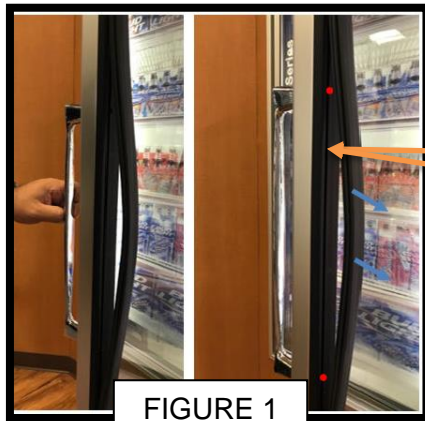
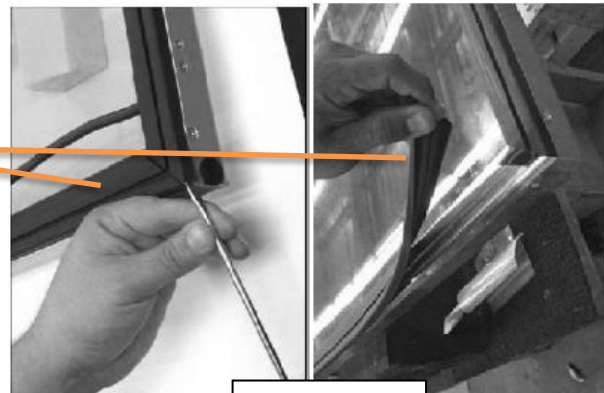

FIGURE 1
FIGURE 2
Disconnect frame from power source. Remove the door. Remove the magnetic gasket (A) by starting on the upper corner and work your way down. Carefully remove plastic (B) cover with a screwdriver, starting at the upper corner (Fig. 1). If plastic cover becomes damaged it has to be replaced.
Refer to Fig. 2 for heater wire location. Remove the heater from the door rail, and cut the leads at the hinge pin power connection.
2. To locate screws, open the door enough to easily access the door gasket(FIGURE 1) and PVC backer plastic cover(FIGURE 2) located on the perimeter on the inside of the door rail. **Note:** Do not remove the entire door gasket from the door rail. Only the door handle rail side area that is required to replace the handle.
3. Proceed by gently and carefully pulling back the door gasket portion(FIGURE 1) along the area the top and bottom of opposing side of the handle are located, then proceed to remove the PVC backer plastic cover by inserting the end of a slot -head screwdriver in between two PVC backer plastic cover ends at the corner miter as shown on FIGURE 2. Carefully twist the screwdriver to loosen the corner of the plastic cover lip from the door rail. Continue to pry the PVC backer plastic cover from the handle side door rail until the entire end of the plastic rail is disengaged, as shown in FIGURE 2. Pull the PVC backer plastic cover up and out of the door rail grooves until the entire PVC backer plastic cover is removed from the handle side door rail.
4. To remove the two (2) handle screws, insert a 5/32-inch hex ball-driver t-handle or 5/32-inch Allen Wrench and turn counterclockwise to loosen the screws, ensure to hold the handle while loosening both screws to keep the handle from falling and to ease the removal of the handle. While loosening screws then ensure to push forward to keep the screws exposed on the front of the door. It's crucial that these screws are not removed and you will need to avoid them falling into the door rail.